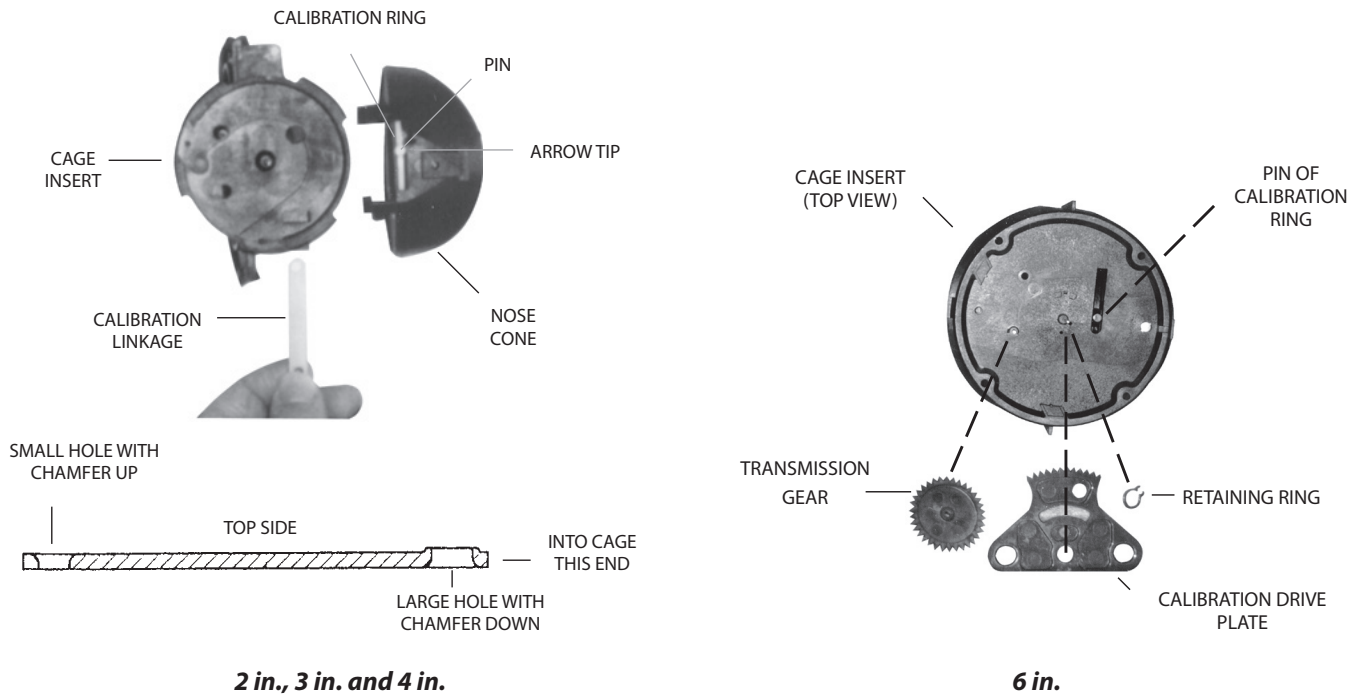

Figure 11: Calibration ring/linkage assemblies
1. Align the pin on the perimeter of the calibration ring with the arrow tip located on the nose cone assembly (see Figure 11).
2. For 2 in., 3 in. and 4 in. sizes, install the calibration linkage into the cage with the larger hole to engage the calibration ring tab, with the side of chamfered edge of the hole towards the nose cone assembly (see Figure 11).